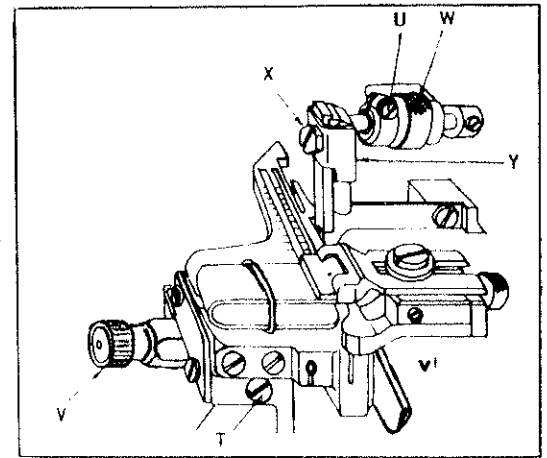

fig 12
LOOSEN SCREW (T), FIGURE 12, AND PULL (V) TO LEFT SLIGHTLY, THEN TIGHTEN SCREW (T). NOW LOOSEN NUT (V), AND LOWER KNIFE CAN BE REMOVED BY PULLING DOWNWARD. TO REPLACE INSERT THE KNIFE INTO GROOVE OF (V), OF LOWER KNIFE HOLDER. THE TOP OF LOWER KNIFE MUST BE LEVEL AND PARALLEL TO NEEDLE PLATE.